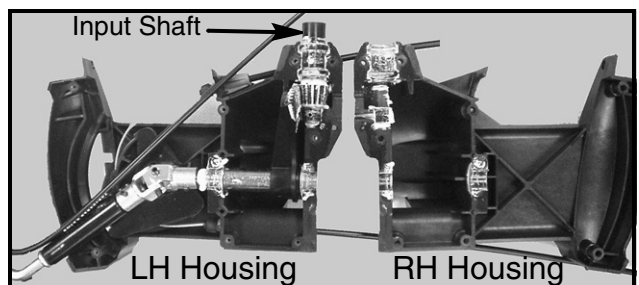

FIGURE 9
12. Holding the lower housing half (LH side) firmly, remove the RH housing half. See Figure 9.